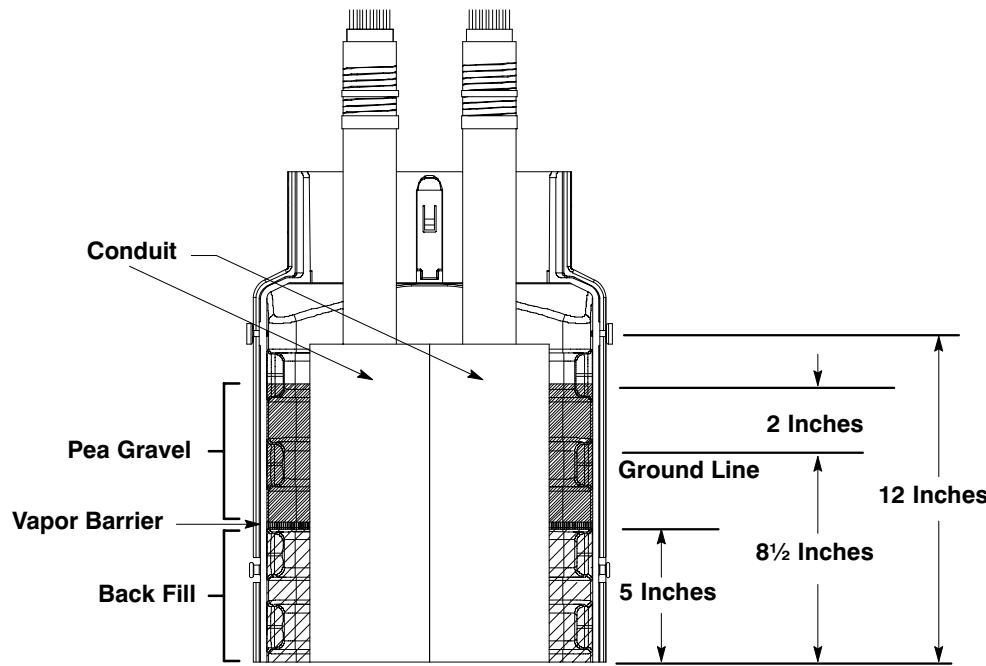

Figure 3. Base Installation
7.	Add pea gravel up to 1½-inches below the conduit. (See Figure 3.)
8.	Add pea gravel up to 1½-inches below the conduit. (See Figure 3.)